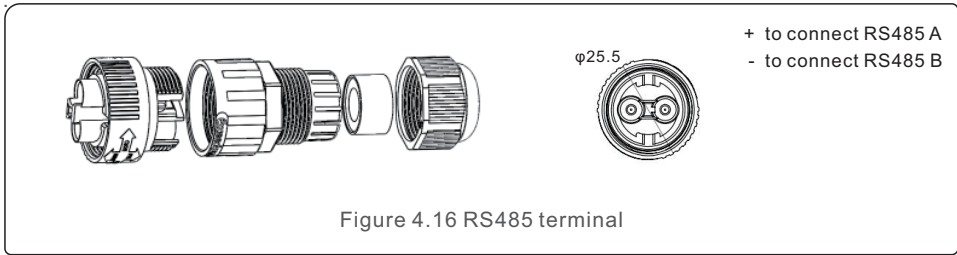

Figure 4.16 RS485 terminal
a. Refer to figure 4.16, the RS485 terminals for inverter and EPM are already assembled.